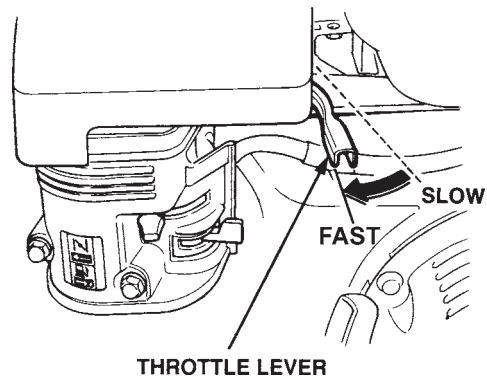

Figure 8. Throttle lever Lever
3. Move the throttle lever (Figure 8) away from the slow position, about 1/3 of the way toward the fast position.